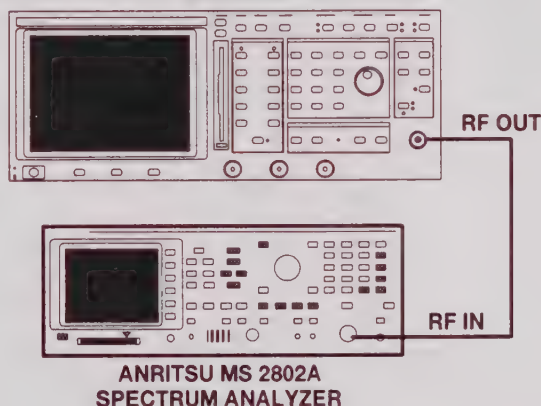

Figure 5-7. Source Output Signal Purity Test Setup
- Step 1.** Set up the equipment as shown in Figure 5-7, and turn the equipment on.